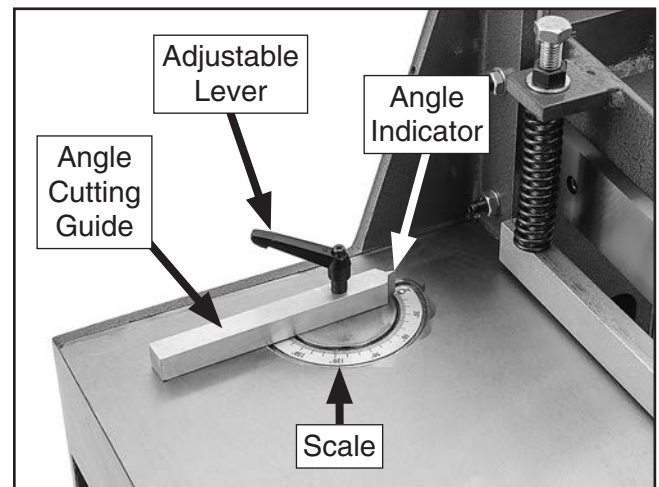

Figure 11. 7013/7014 angle cutting guide (blade cover removed for clarity).
2. Loosen adjustable lever on angle cutting guide, use scale to set angle to match desired cut, then tighten lever (see **Figure 11**).